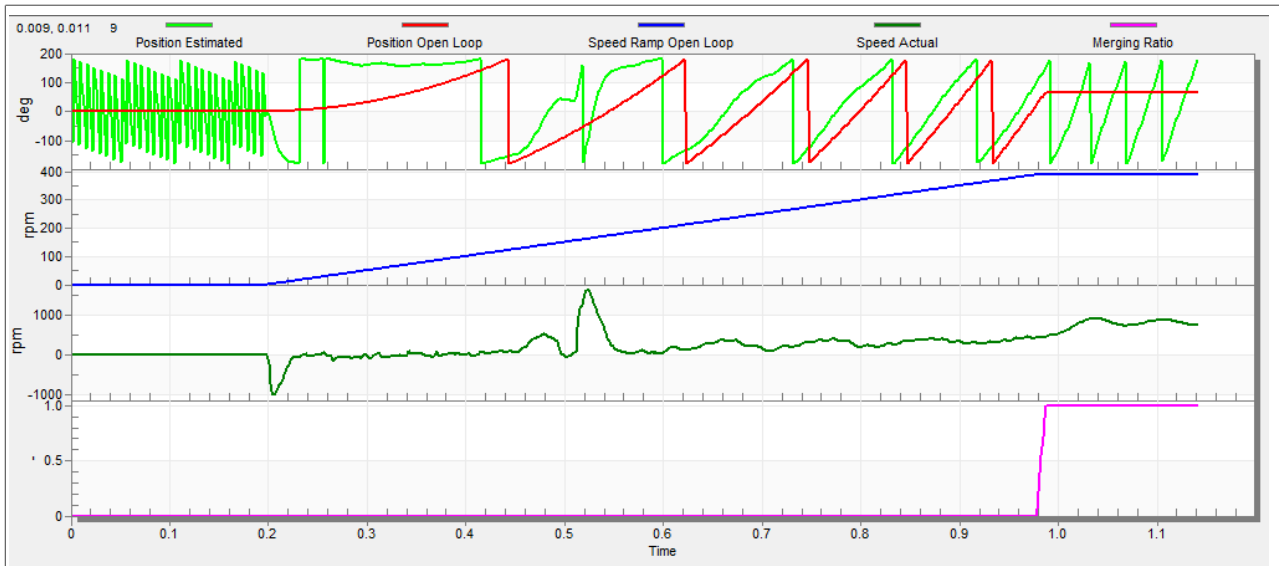

Figure 31. Motor startup
- The start-up process can be tuned by a set of parameters located in the “Sensorless” tab. Two of them (ramp increment and current) are accessible in both tuning modes. The start-up tuning can be processed in all control modes besides the scalar control. Setting the optimal values results in a proper motor startup. An example start-up state of low-dynamic drives (fans, pumps) is shown in Figure 31.